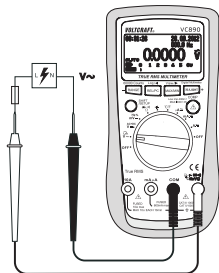

Fig. 10
1. Turn on the DMM and select the measurement range "V \sim ". Press the SHIFT/SETUP button (3) to switch to the measurement range " $\overline{\Delta}$ ".
2. Insert the red test lead in the $\text{^{\circ}CHzV}\Omega$ measuring socket (7), the black test lead in the COM measuring socket (8) (Fig. 10).